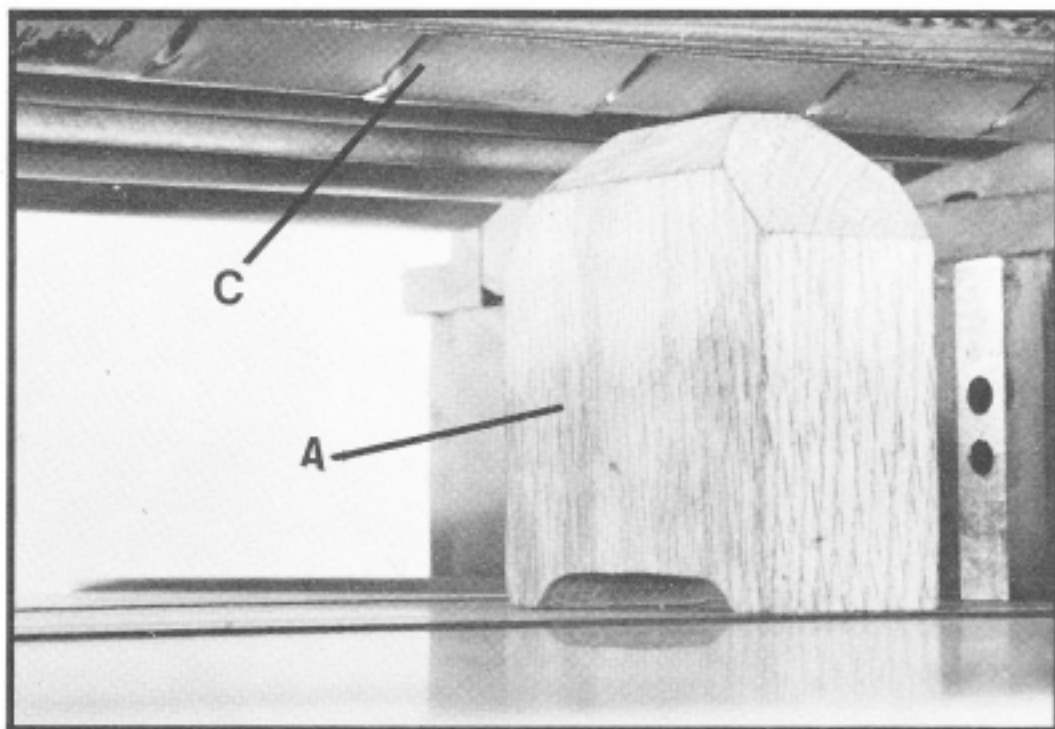

Fig. 24
4. Move the gage block (A) underneath the chipbreakers (C) as shown in Fig. 24. The bottom of the chipbreakers should just touch the top of the gage block. Check opposite end of chipbreakers in the same manner.